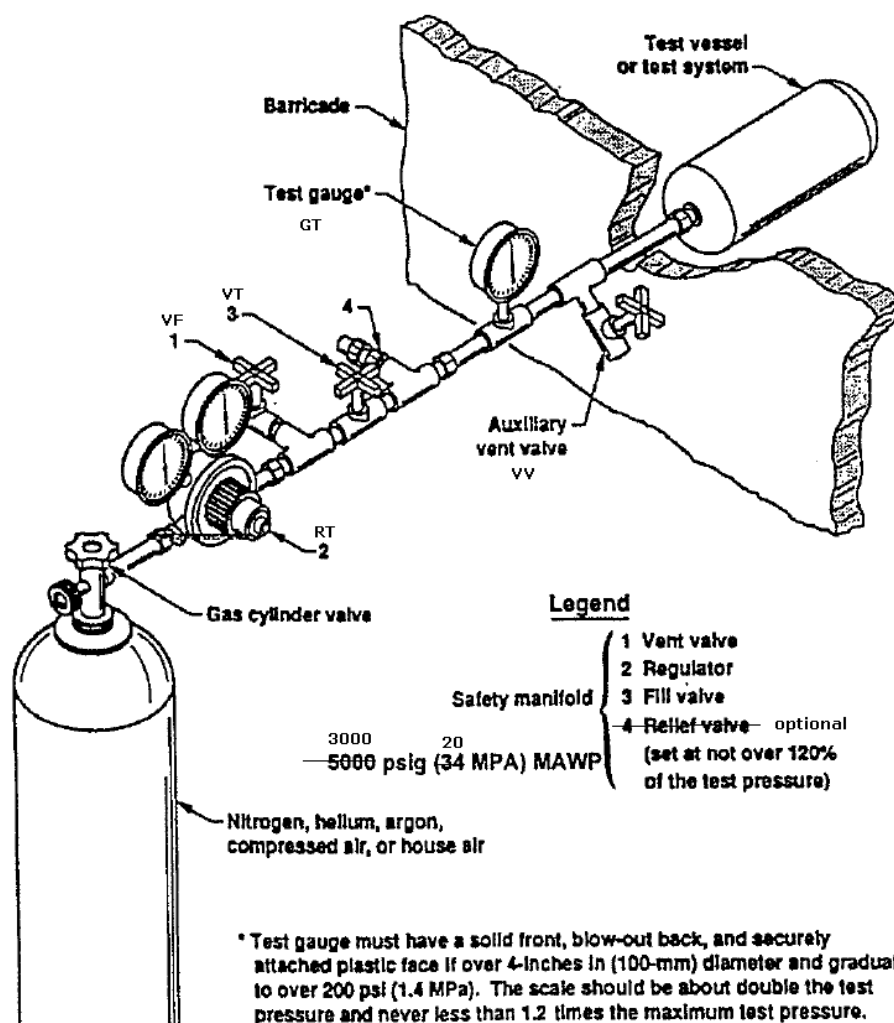

Fig. 17 Pressure Test Set up (Pneumatic, in-situ)
2. Assemble remote gas cylinder, regulator(RT), test gauge(GT) for 563 psig test pressure, test isolation valve(TV), vent valve(VV), fill vent valve (VF) as shown in fig. 17 below, and locate around corner from experiment, out of line sight, and behind wall of cabinets, or wall. Note that the pressure relief valve shown in fig. 17 is optional, since test feed ports T1 and T3 cannot be isolated from the system pressure relief valves.
13. Screw in test regulator slowly, in steps in steps of 20% MAWP (300 psi), each time closing VT, and watching GT to see that stable pressures are achieved. Watch GT for 5 minutes minimum, each time. If leaks occur, back off pressure to 300 psig (20% MAWP) max. and inspect to find leak. See note on possible methods below fig. 17. Once found, back off RT fully, open VV to depressurize fully, and fix leak. If no leaks occur, continue increasing pressure until 1500 psig reads on test gauge. Record pressures on system gauges. Increase pressure to 1875 psig. Hold for 5 minutes, if stable then back off RT, close test gas cyl. valve and release system pressure; otherwise depressurize and fix leak as above. Note that it may be possible to tell when 1500 psig relief valve opens (GT needle will jump to a lower pressure), however this should not be regarded as accurate since 1500 psig relief valve could leak during test.
25. Screw in RT handle slowly, in steps of 20% MAWP (90 psi), each time closing VT, and watching GT to see that stable pressures are achieved. Watch GT for 5 minutes minimum, each time. If leaks occur, back off pressure to 90 psig (20% MAWP) max. and inspect to find leak. See note on possible methods below fig. 17. Once found, back off RT fully, open test vent valve VV to depressurize fully, and fix leak. If no leaks occur, continue increasing pressure until 450 psi reads on GT. Record pressures on system gauges. Increase pressure to 563 psig. Hold for 5 minutes, if pressure is stable, then back off regulator fully, close test gas cyl. valve, and release system pressure through VV; otherwise depressurize and fix leak as above. Note that it may be possible to tell when 450 psig relief valve opens (GT needle will jump to a lower pressure), however this should not be regarded as accurate since 450 psig relief valve could leak during test.
31. Screw in test regulator slowly, in steps of 20% MAWP (70 psi, 50 psi initial), each time closing VT, and watching GT, to see that stable pressures are achieved. Watch GT for 5 minutes minimum, each time. If leaks occur, back off pressure to 50 psig (20% MAWP) max. and inspect to find leak. See note on possible methods below fig. 17. Once found, back off RT fully, open VV to depressurize fully, and fix leak. If no leaks occur, continue increasing pressure until 350 psig (250 initial) reads on GT. Record pressures on system gauges. If gas system pressure gauge (P3) cannot read higher than 438 (313 initial) psi, then hold for 5